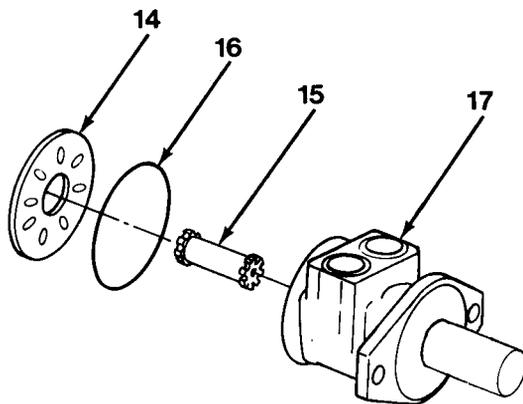

Figure 13-4
6. Remove wear plate (14), drive link (15) and seal ring (16) from housing (17, Figure 13-4).